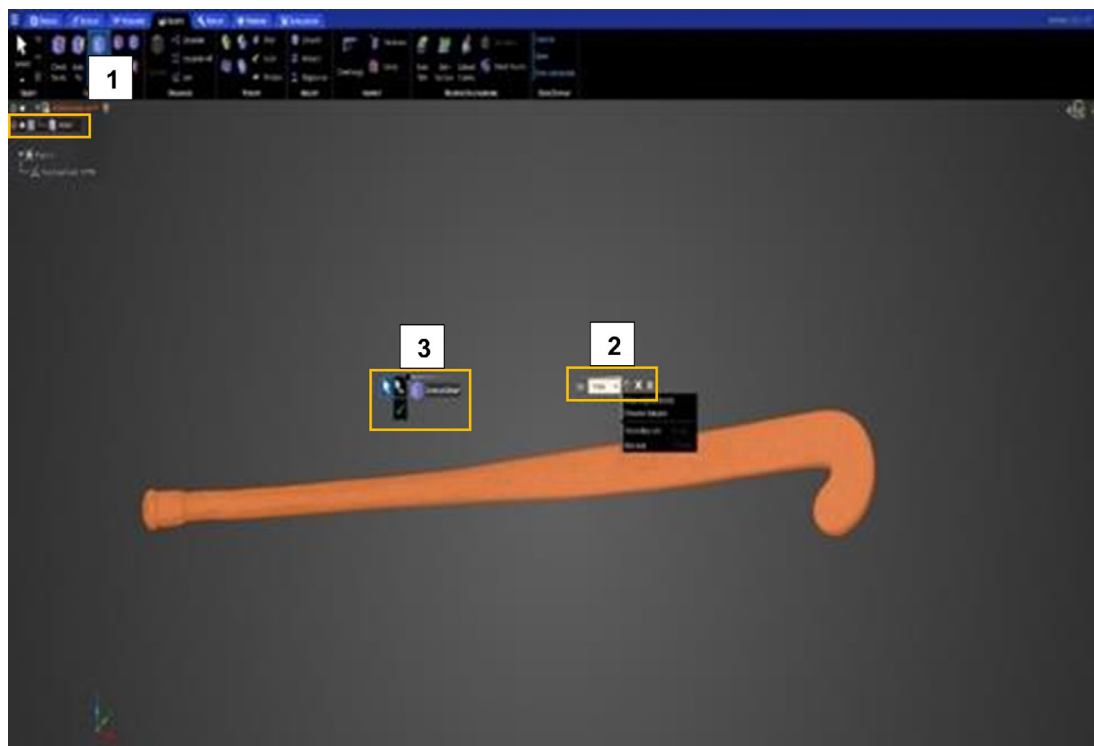

Figure 12: Shrink wrapping the scan data
5. Once “Shrink Wrap” has been selected, using the drop-down tab select the “Hockey Stick STL” geometry (Fig. 12 (1)), which then allows you to adjust the size of the shrink wrap (Fig 12-(2)). Enter “1 mm” in the size tab.
6. Then finally, select the “Tick” (Fig 12-(3)), to apply the shrink wrap to the geometry.